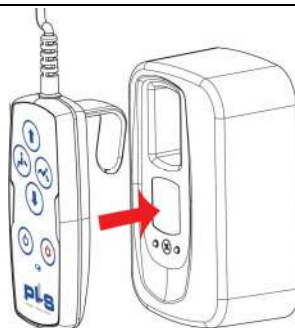

Figure 7, handset in wall charger
1. Place the handset in the wall holder (*Figure 7, page 11*).